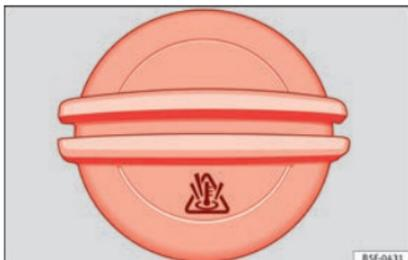

Fig. 245 In the engine compartment: Coolant expansion tank cap
- The coolant expansion tank is easily recognisable because of the symbol 🚫 on the cap » » » Fig. 245.